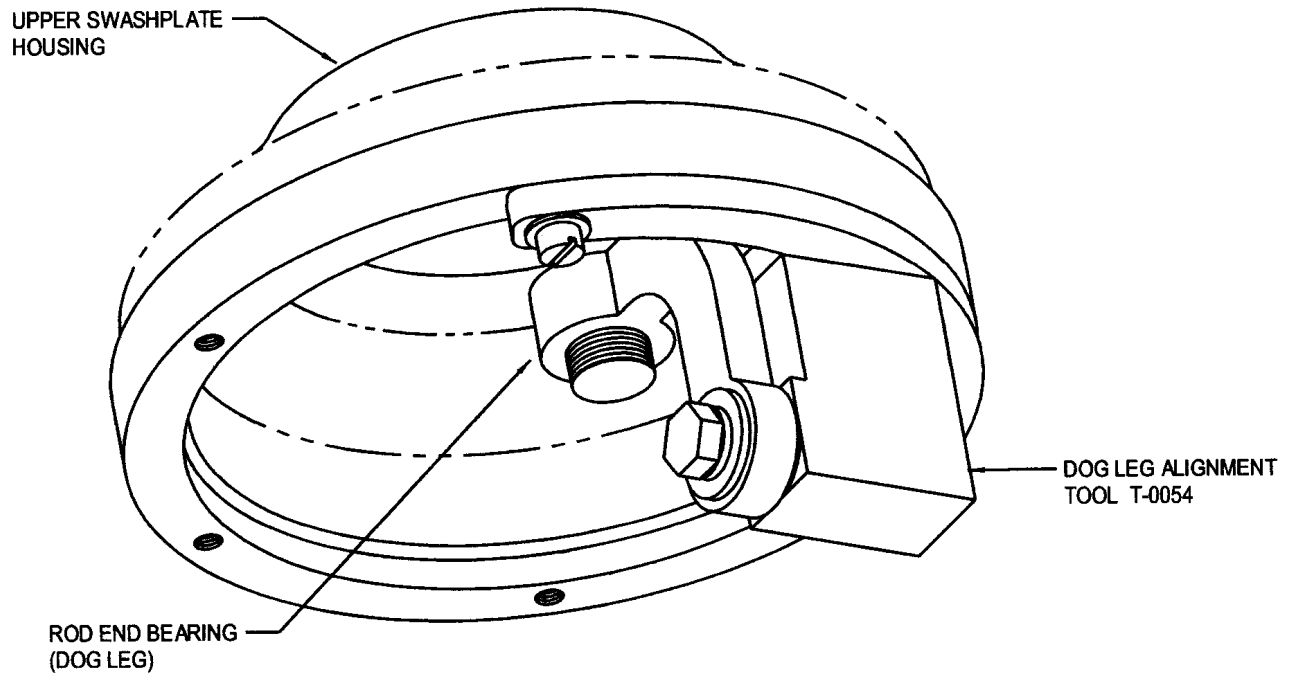

Figure 12-24. Alignment Tool T-0054 for Dog Leg Installation
- (b) Position special tool T-0054 on bell housing of upper swashplate assembly while aligning the dogleg parallel to its respective walking beam on the main rotor hub. Install the screws to hold the tool in place. Place the spacer on each side of the swivel ball in the dogleg and install the bolt to position the dogleg on the tool (Figure 12-24).
- (c) Torque the nut (9) to 130-140 in-lb/14.7-15.9 Nm and install cotter pin.